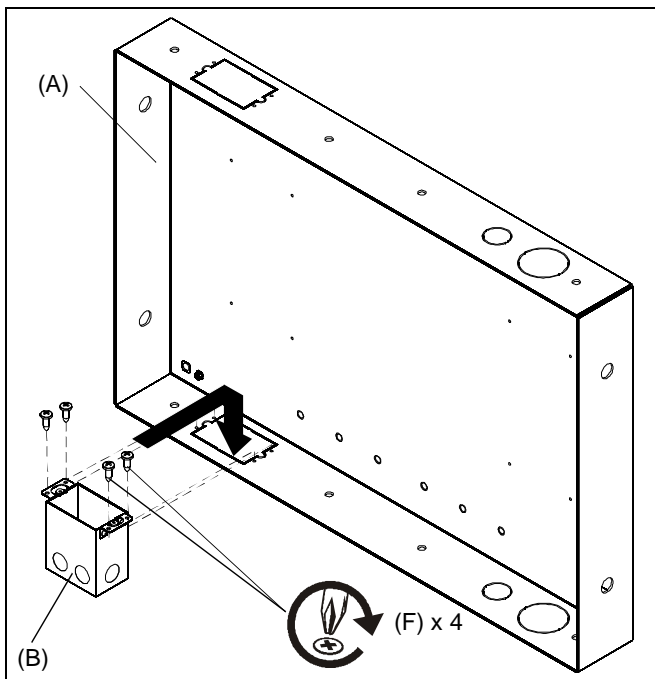

Figure 3
1. Install junction box (B) into the PAC-501 (A) using four 08 x 1/2" Phillips pan head tap screws (F). (See Figure 3)